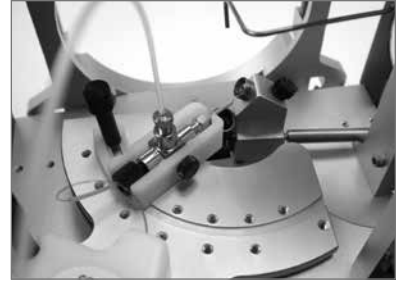

Figure 17: Magnetic stage plate with the sheath gas tee installed on in the PicoView source.
1. If the stage plate was removed from the PicoView source, install the stage plate onto the magnetic stage (Figure 17)